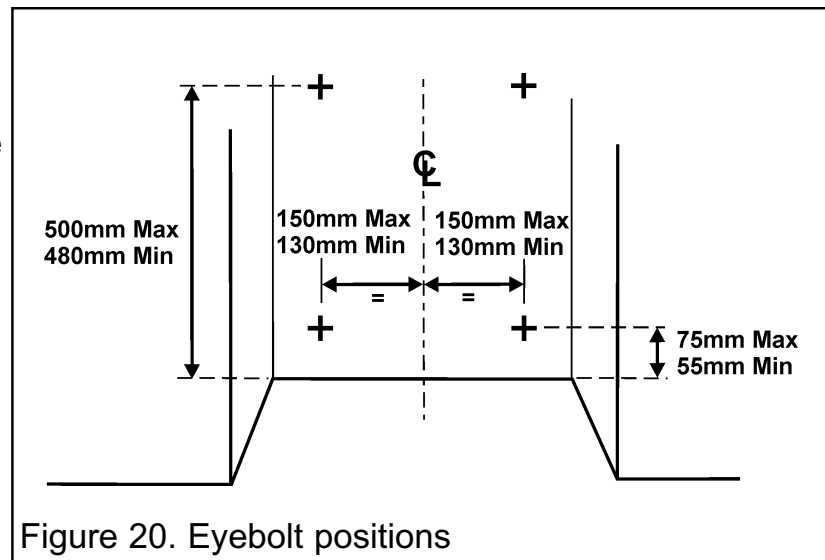

Figure 20. Eyebolt positions
2. Drill four holes in the rear wall of the fireplace for the eyebolt plugs. The holes should be drilled within the range of positions shown in figure 20 using a suitably sized masonry